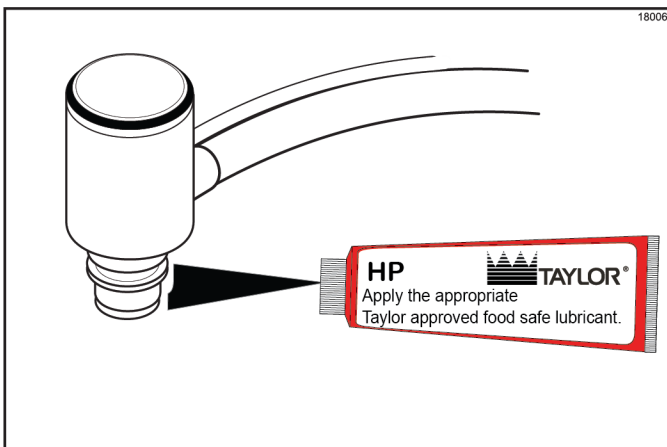

Figure 6-66
5. Remove the syrup sampler. Lightly lubricate the O-ring on each syrup line fitting. (See Figure 6-66.)